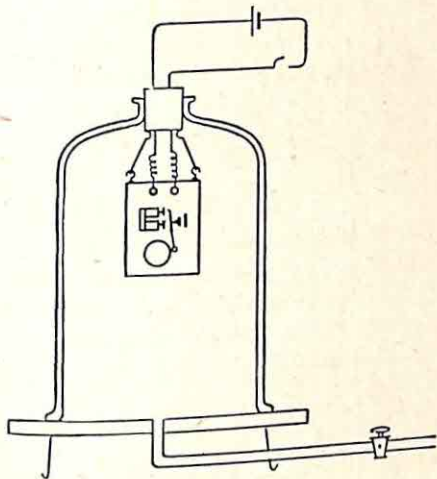

FIG. 72.
*Expt. D.*—The bell is suspended from the under side of the rubber stopper of the bell-jar and two fine, coiled copper wires passing through the stopper connect the terminals through a switch to a dry cell (Fig. 72). The jar is mounted on the *well greased* plate of the receiver which is connected through the stop-tap to the pump. The switch is closed to test the loudness of the bell. The switch and tap are opened and the jar exhausted as highly as possible; the tap and switch are closed and the pump disconnected.